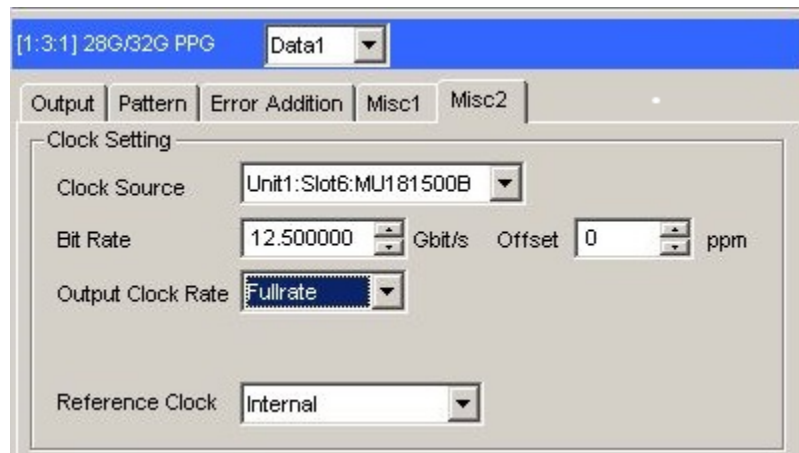

Figure E.3-2 Output Clock Rate Setting on the Misc2 Tab of MU183020A
4. Use a coaxial cable (applicable part, 1.3 m, K connector) to connect MU183020A's **Clock Output** connector and MP1825B's **Clock Input** connector. Then, on the **Misc2** tab of MU183020A, select **Fullrate** in the Output Clock Rate box. (Figure E.3-2)